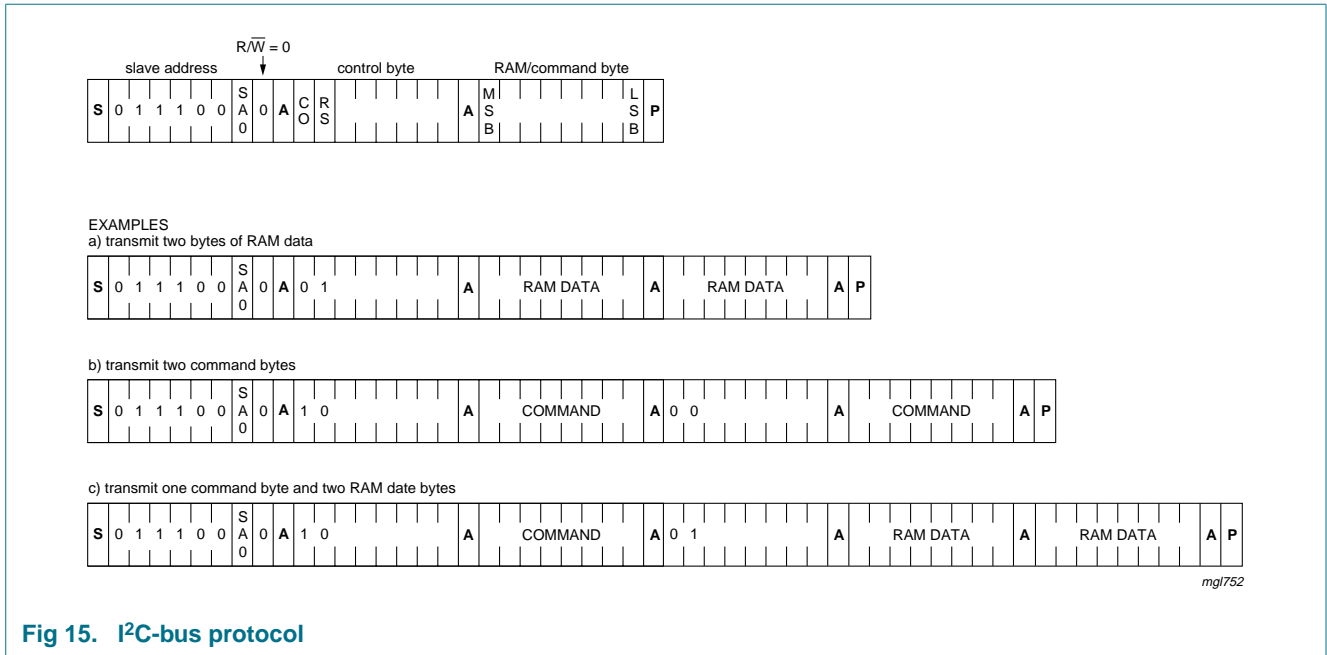

Fig 15. I2C-bus protocol
The I2C-bus protocol is shown in Figure 15. The sequence is initiated with a START condition (S) from the I2C-bus master which is followed by one of two possible PCF85133 slave addresses available. All PCF85133s with the corresponding SA0 level acknowledge in parallel to the slave address, but all PCF85133 with the alternative SA0 level ignore the whole I2C-bus transfer.